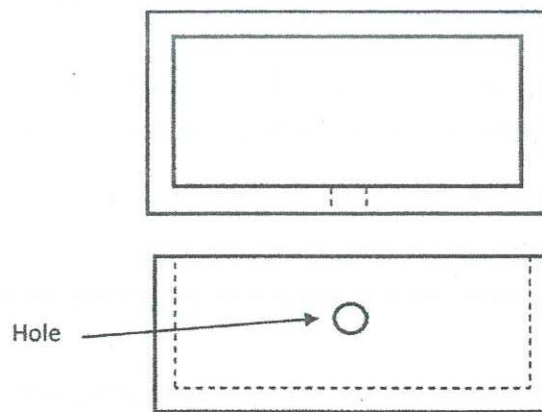

Figure Q4.(b)
- b) Figure Q4. (b) shows a top view and the front view of a part with a pass-through hole in one side.